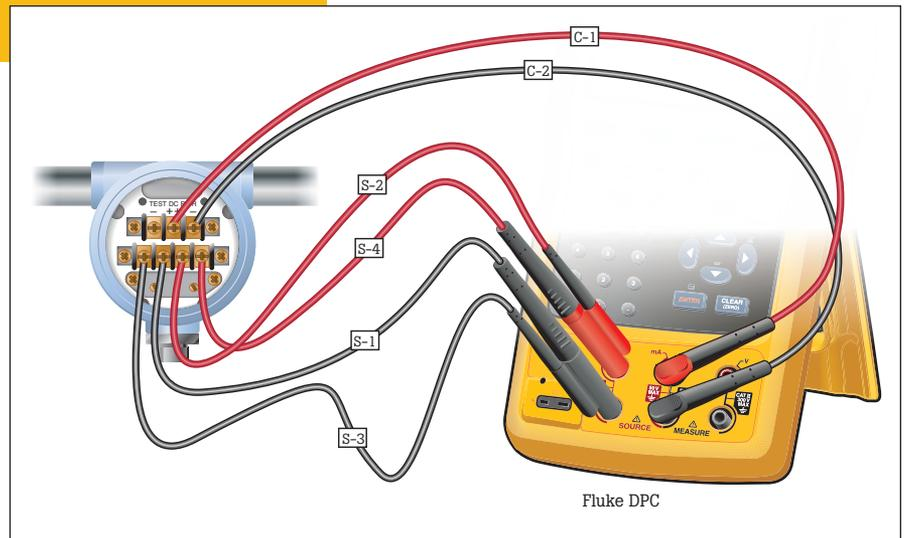

Figure 11.
The example shown below (Figure 11) depicts the hookup for a 3 and 4 wire Rosemount 444 RTD Transmitter. You will need an additional pair of TL22 test leads and AC20 industrial test clips to complete all the connections necessary for this application. In order to double the available connections to the source terminals on the DPC, you also will need to utilize the short black jumpers supplied with the Documenting Process Calibrator.
3. Once the connections are made as per the diagram in Figure 11, enable the loop 24 volt power from the setup screen, source the pertinent RTD for the specific transmitter being evaluated, and set the measure mode to mA.